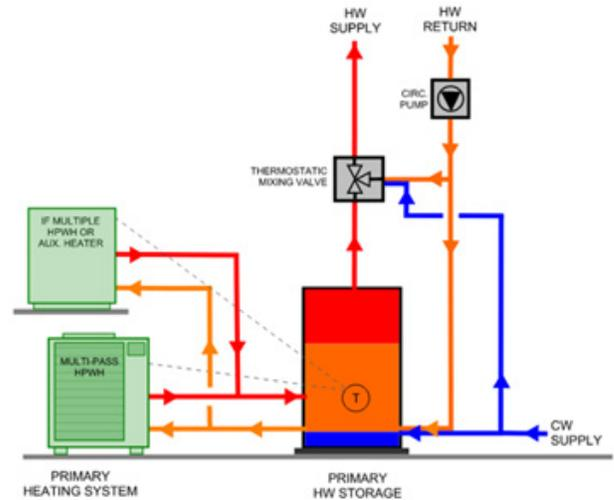

Figure 5: Multi-pass primary HPWH system with hot water return to primary storage
- 5 **Figure 5:**
One of the major appeals of multi-pass return-to-primary HPWH systems is the familiarity designers and building operators have with their piping configuration. Multi-pass HPWH systems are plumbed almost exactly as conventional gas water heating systems, as can be seen in Figure 5. However, there are some significant disadvantages: